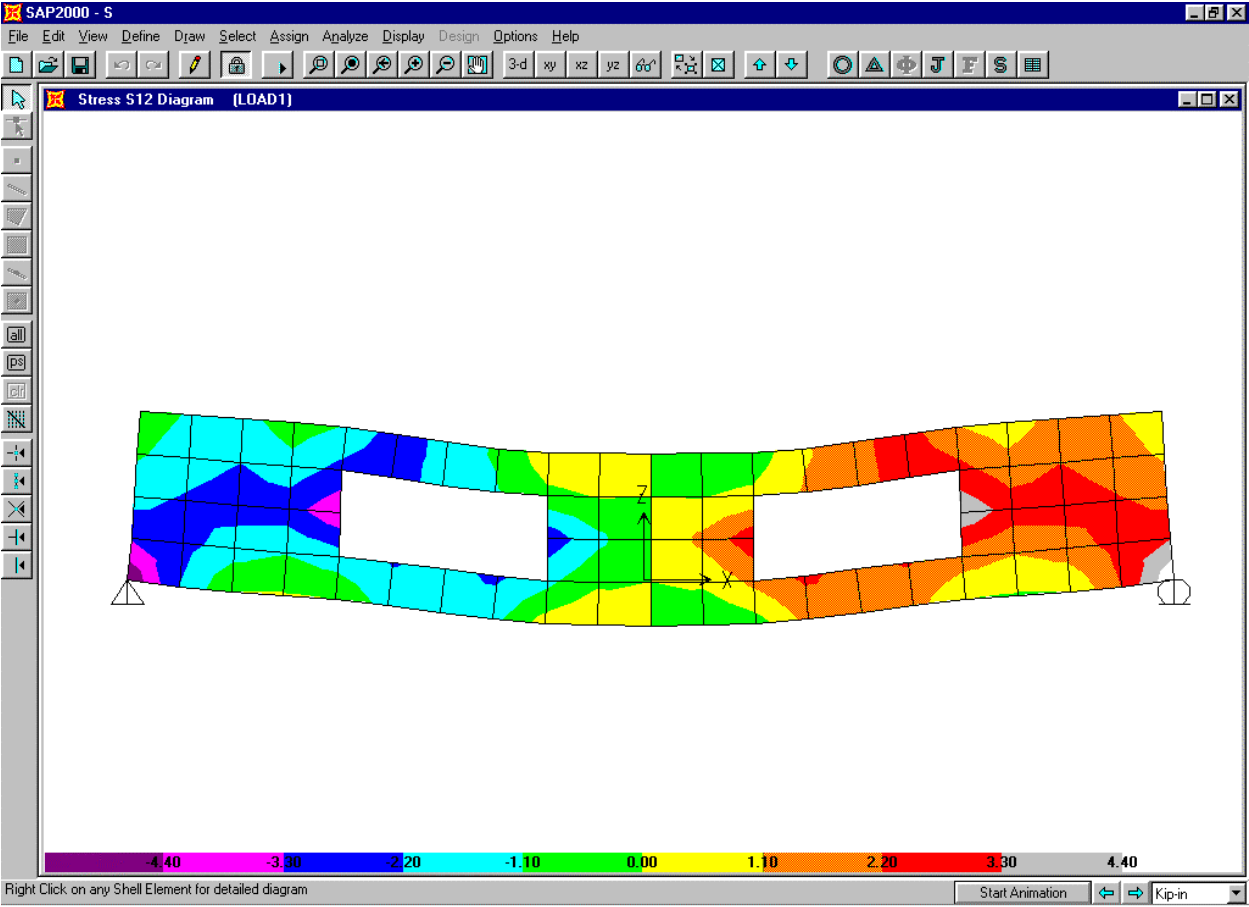

Figure S-3: Shell Stresses
- Click the **OK** button to display the shell stresses. The screen should look similar to that in Figure S-3.